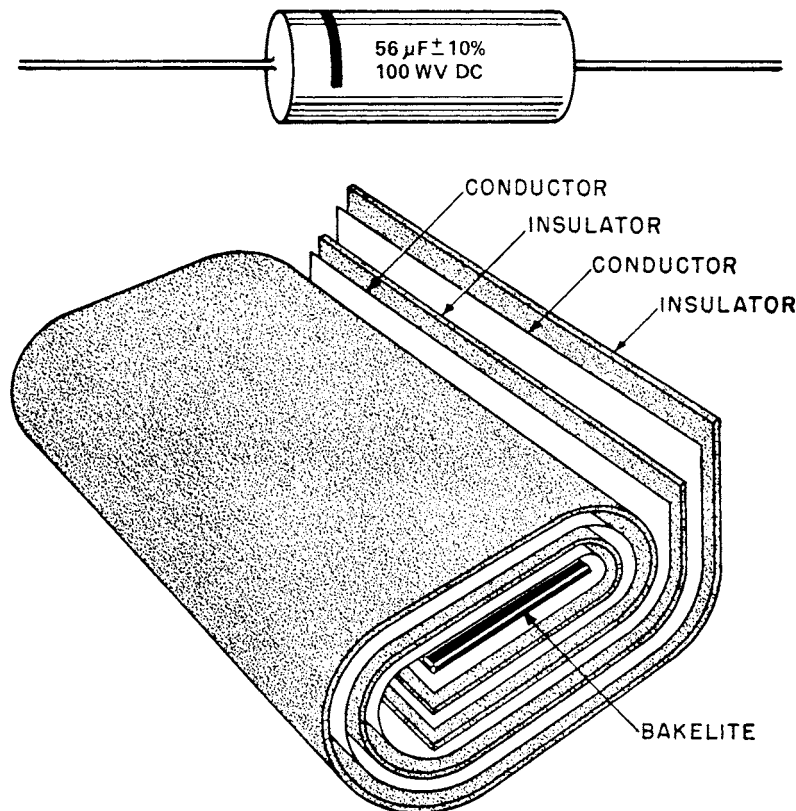

Fig. 3-15 A paper capacitor, encased, and with the top cover removed.
The capacitor with polarity markings (+ or -) is called an electrolytic. The other four types are not polarized and are not marked + or -. Some of the other capacitors will have a black band around one end. This indicates the terminal or lead that is connected to the outside foil of the capacitor. See Fig. 3-15.
- *Paper capacitors.* In paper capacitors, paper is the dielectric separating the two plates of aluminum foil. The materials, aluminum foil and paper separators, are rolled in a cylinder. Leads are attached to each foil layer. See Fig. 3-15. The cylindrical roll is placed in a container tube made of cardboard and sealed with wax. Paper capacitors usually have a capacitance